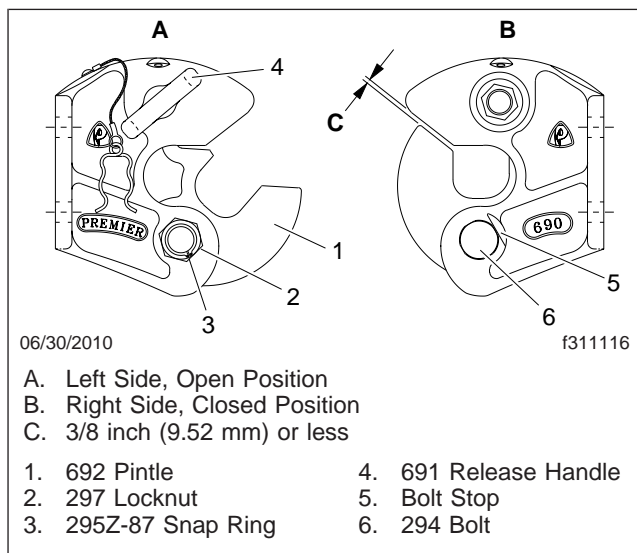

Fig. 1, 690 Coupling
- Place the 690 coupling into the OPEN position as shown in **Fig. 1**.